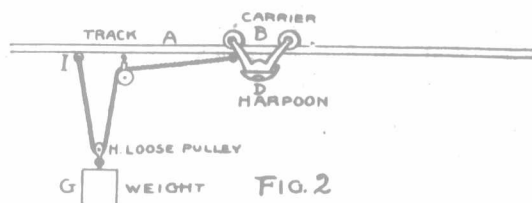

FIG. 2
In building, the posts are first placed on end on the foundation, at equal distances apart, plumbed, and well stay-lathed. Commencing at the bottom, the hoops are placed in position in two of the sections, and nuts started on each end. A stave with wooden clips (see Fig. 2), to prevent hoops sagging in the middle, is placed half way between the posts in each section.
In case your mow is long, you will not have enough height from your barn floor to pulley (F) to bring the carrier far enough forward. In that case, you can resort to plan in Fig. 2, using a loose pulley (H), to which the weight (G) is attached, and the end of the rope fastened at I. In this case you will require double the weight (G) to accomplish the same results.